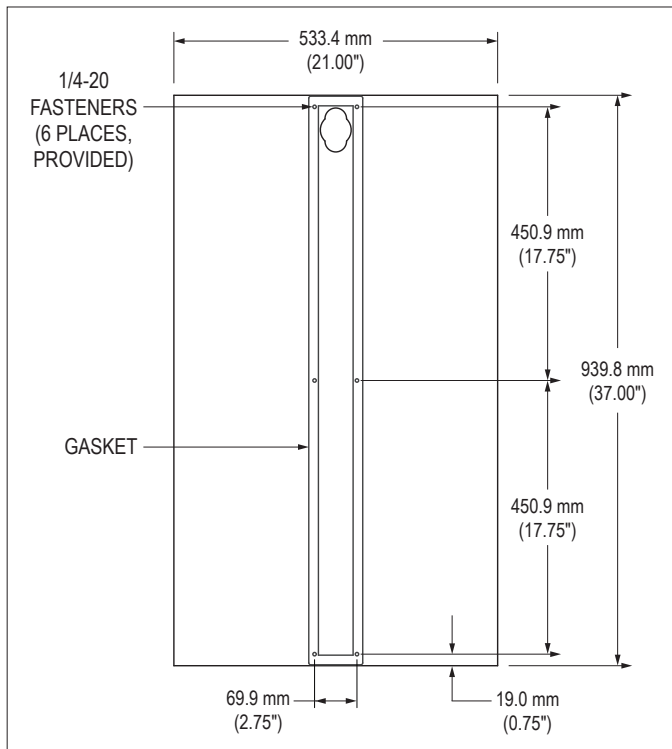

FIGURE 2 – REAR VIEW SHOWING MOUNTING PATTERN
2. Refer to Figures 2 and 3. Mount the enclosure.
- a. When mounting to a pedestal: Refer to Figure 2. Insert the provided six 1/4-20 fasteners through the holes in the back of the enclosure and into the corresponding pre-tapped holes in the pedestal. Then route power and signal cables through the cable entry into the enclosure.
- b. When mounting directly to a wall (WITHOUT the optional wall mount bracket): Select a wall with a smooth surface, and use the hole pattern shown in Figure 2. After the enclosure is in place, install conduit if necessary, then route cables through the cable entry into the enclosure.